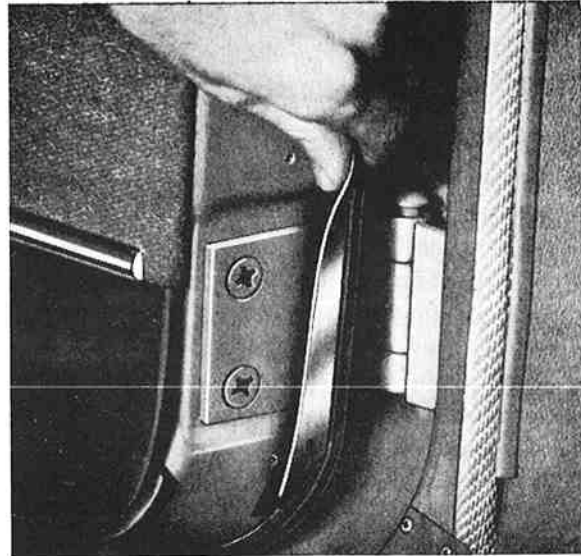

Fig. 15. Plate over hinge
2. Unscrew the four countersunk screws which hold the door to the upper and lower hinges. The door sealing strip must be moved in order to get at the hinge screws. This is done by releasing the two plates over the hinges to which the strip is glued and carefully pulling to one side, see Fig. 15. When doing this, make sure that the rubber strip does not come away from the plate or door.